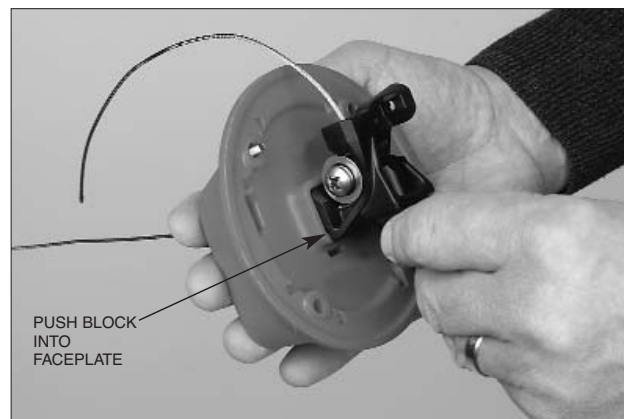

FIGURE 72
2. Thread the wire rope through the faceplate. Insert the block by depressing the tabs and pushing the block into the faceplate until it snaps in place. See Figure 72.